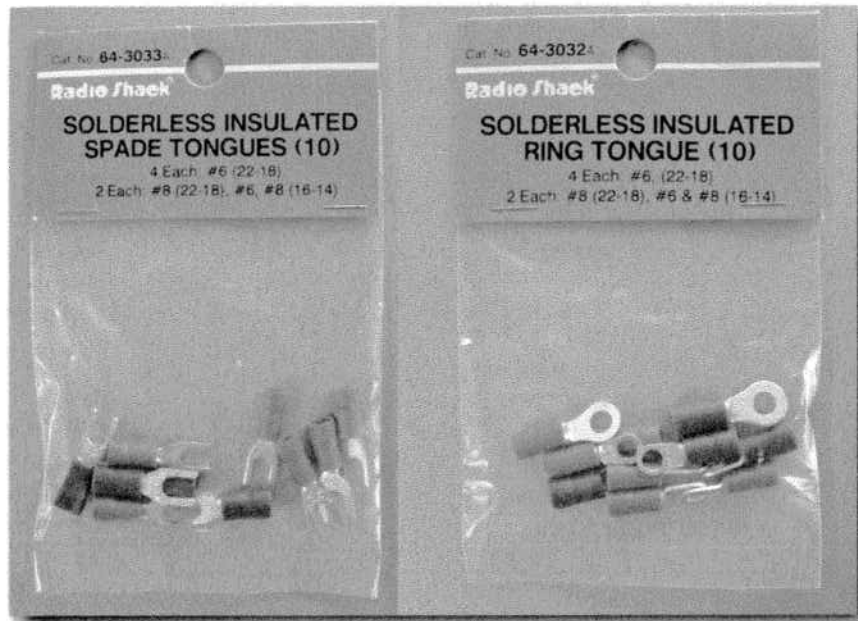

FIGURE 3-6: Ring and spade connectors.
- **Ring Connectors**—For the ends of wires so you can connect them to the barrier terminal strip shown in Figure 3-6.